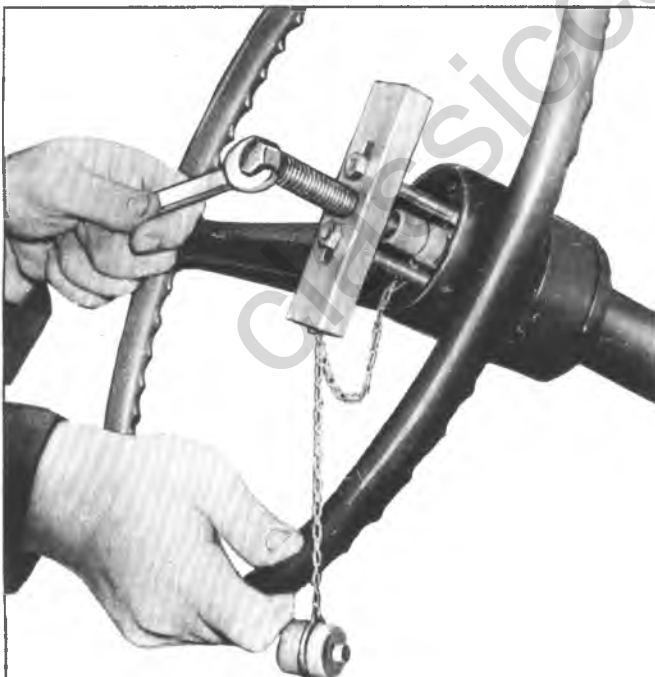

Fig. 3B4-21--Steering Wheel Removal
4. Using tool J-2927, thread puller anchor screws into holes provided on steering wheel. See Fig. 3B4-21. Turn center bolt of tool clockwise to remove wheel.